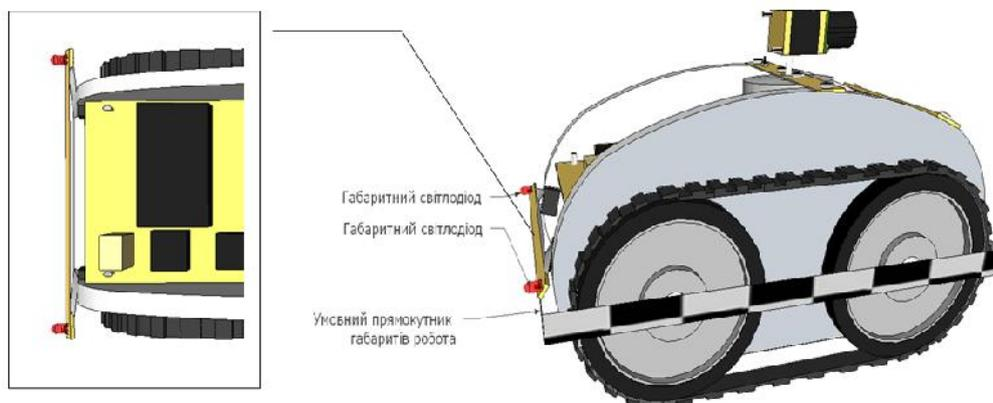

Fig.8. – The example of position LED locating.
5. The robot must have rear position lights - red LED with the diameter of 5 mm and scattering angle not less than 60 degrees, directed backward and situated no more than 1 cm from the lateral sides of the rectangle circumscribing the robot (Fig. 8)